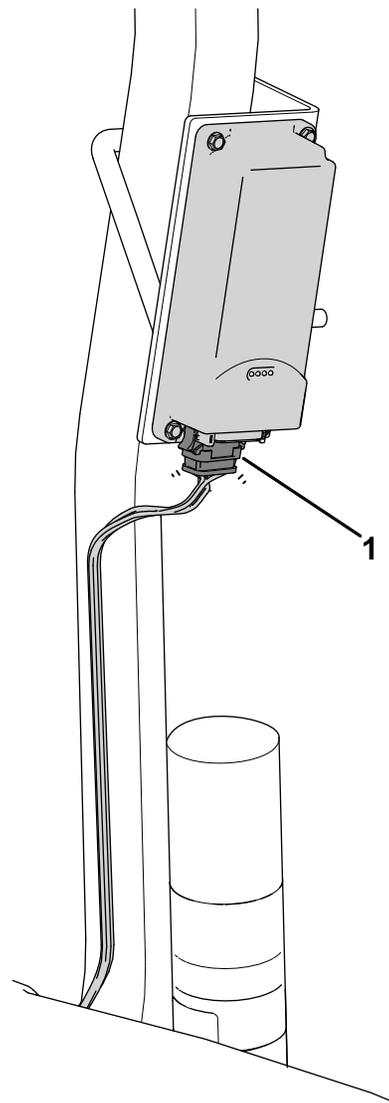

Figure 8
3. Install the connector labeled P02 on the telematics wire harness to the telematics device (Figure 8).